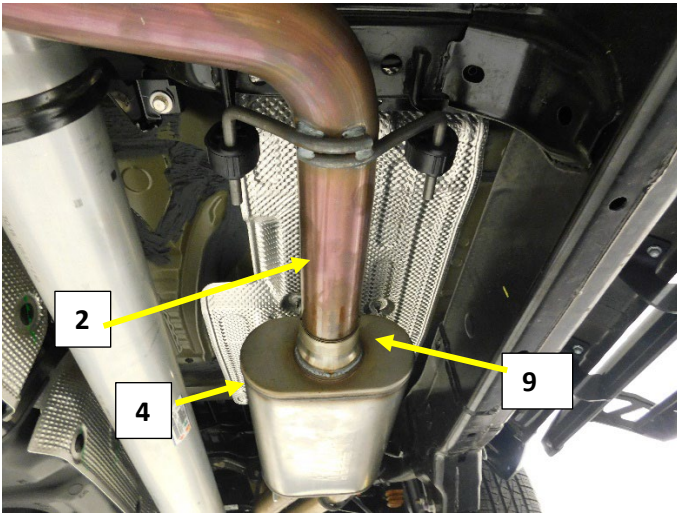

Figure.7
5. Install a 3" band clamp (9) on to the inlet of the 72688-Z muffler (4). Fig. 7
6. Install the muffler (4) on to the muffler inlet pipe (2), align the muffler with the logo down and muffler case level. Tighten the clamp. Fig. 7 **Note: Use extension pipe 26984M (3) between Muffler and inlet pipe for 145.1" wheel base**